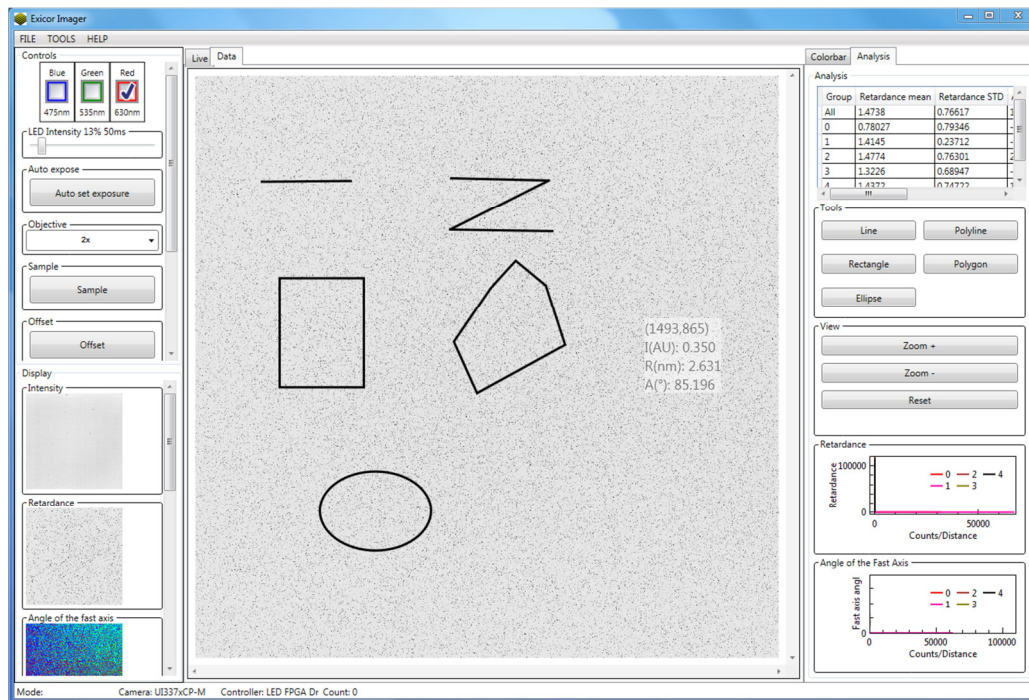

Figure 13 Shape Tool Examples.
**Shape Tools:** Several shape tools for drawing out data from specific parts of the image are available. Examples are shown in Figure 13.